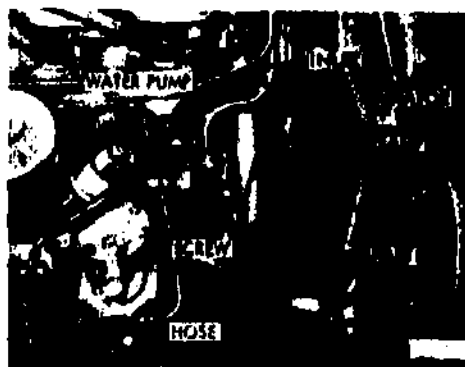

Fig 2-5. Hoses, clamps, water pump, and radiator core.
- (1) Check hoses for rotting and weather cracking. Check for loose clamps, leaking water pump or radiator core, core fins bent/mashed or covered with leaves or dirt (fig 2-5).